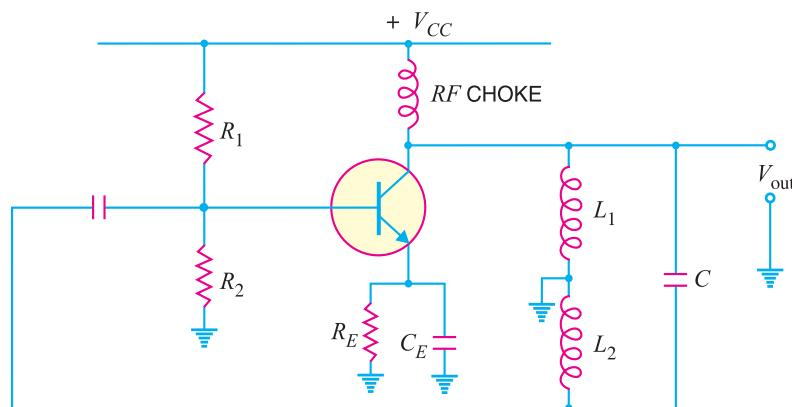

Fig. 14.25
2. Figure 14.25 shows the Hartley oscillator. If  $L_1 = 1000 \mu\text{H}$ ,  $L_2 = 100 \mu\text{H}$  and  $C = 20 \text{ pF}$ , find the (i) operating frequency and (ii) feedback fraction.
4. For the Hartley oscillator shown in Fig. 14.25,  $C = 250 \text{ pF}$ ,  $L_1 = 1.5 \text{ mH}$ ,  $L_2 = 1.5 \text{ mH}$  and  $M = 0.58 \text{ mH}$ . Determine the operating frequency. [159.2 kHz]